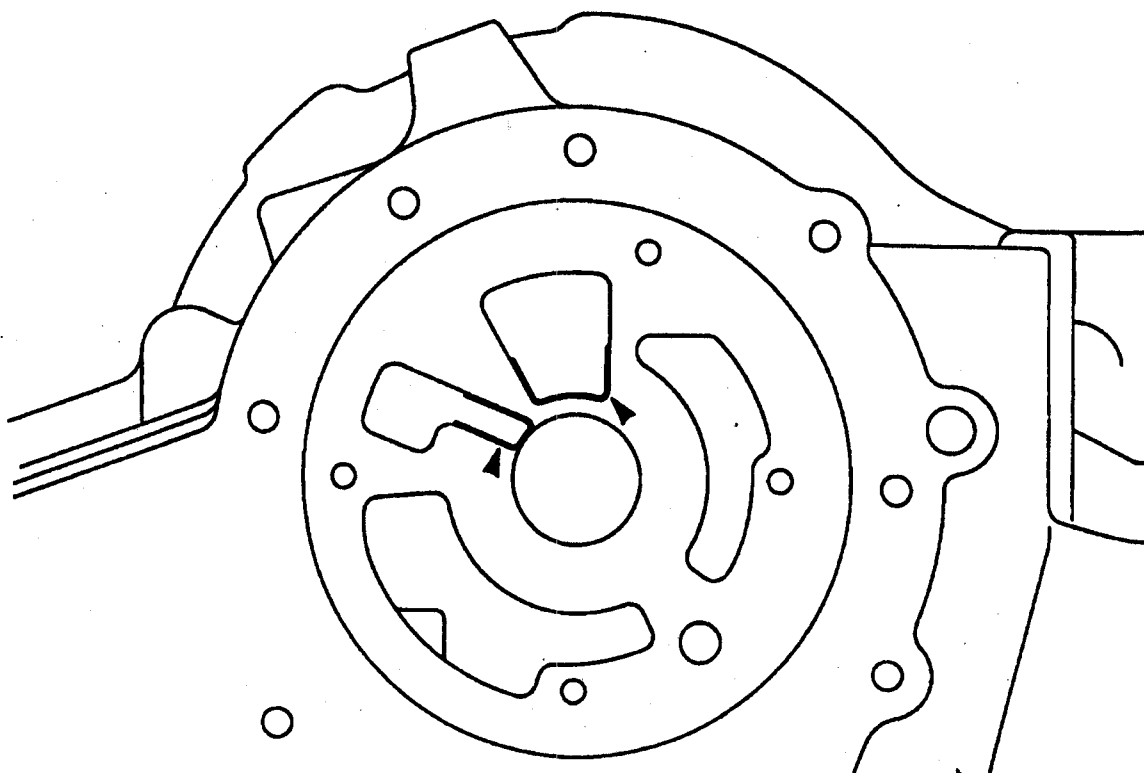

Figure 10.
8. Oil aerated (foaming)	8. See fault "Low Mainline Pressure", item 4
10. Cored galleries on front housing pump mounting face wrong depth (minimum 0.2 inches [5 mm]). Indicated with an excessively low pressure and flow on the converter out cooling line. See Figure 10.	10. Replace front housing (or rectify existing housing)